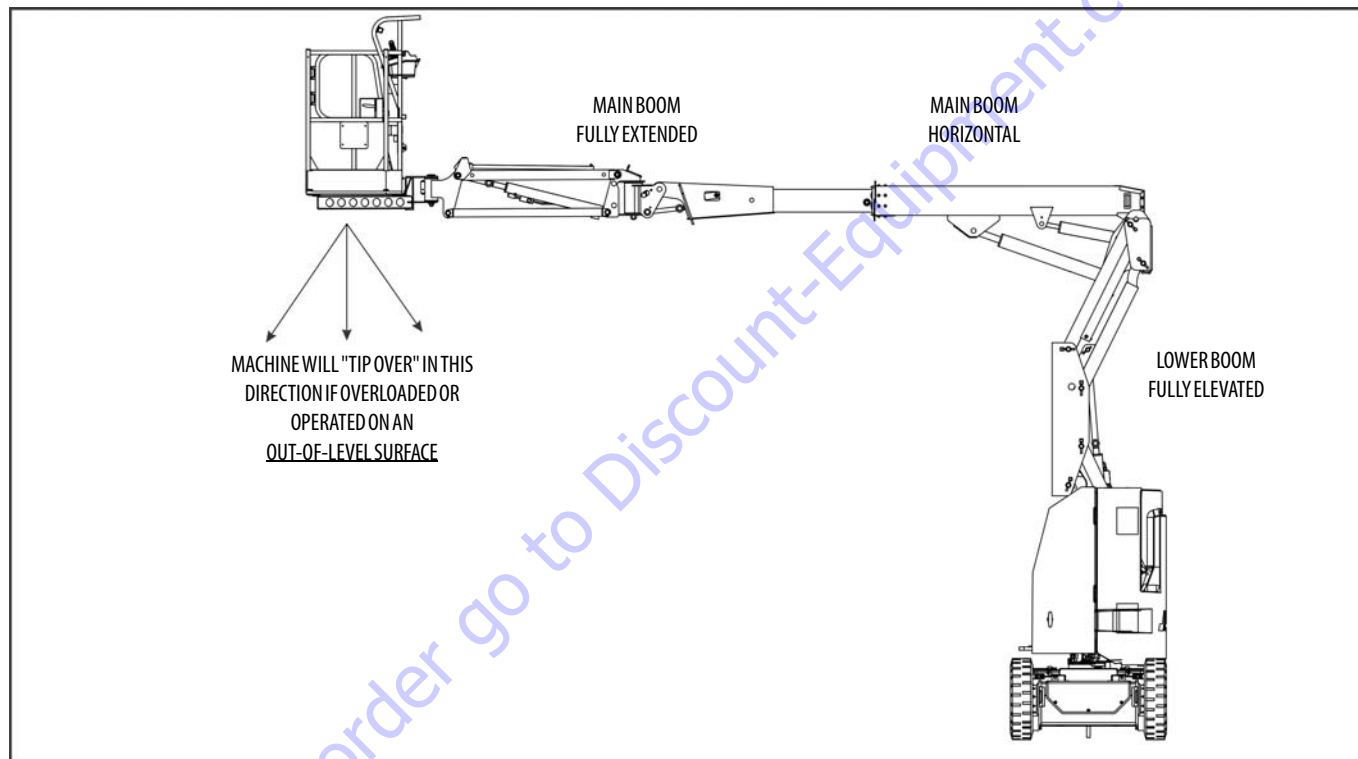
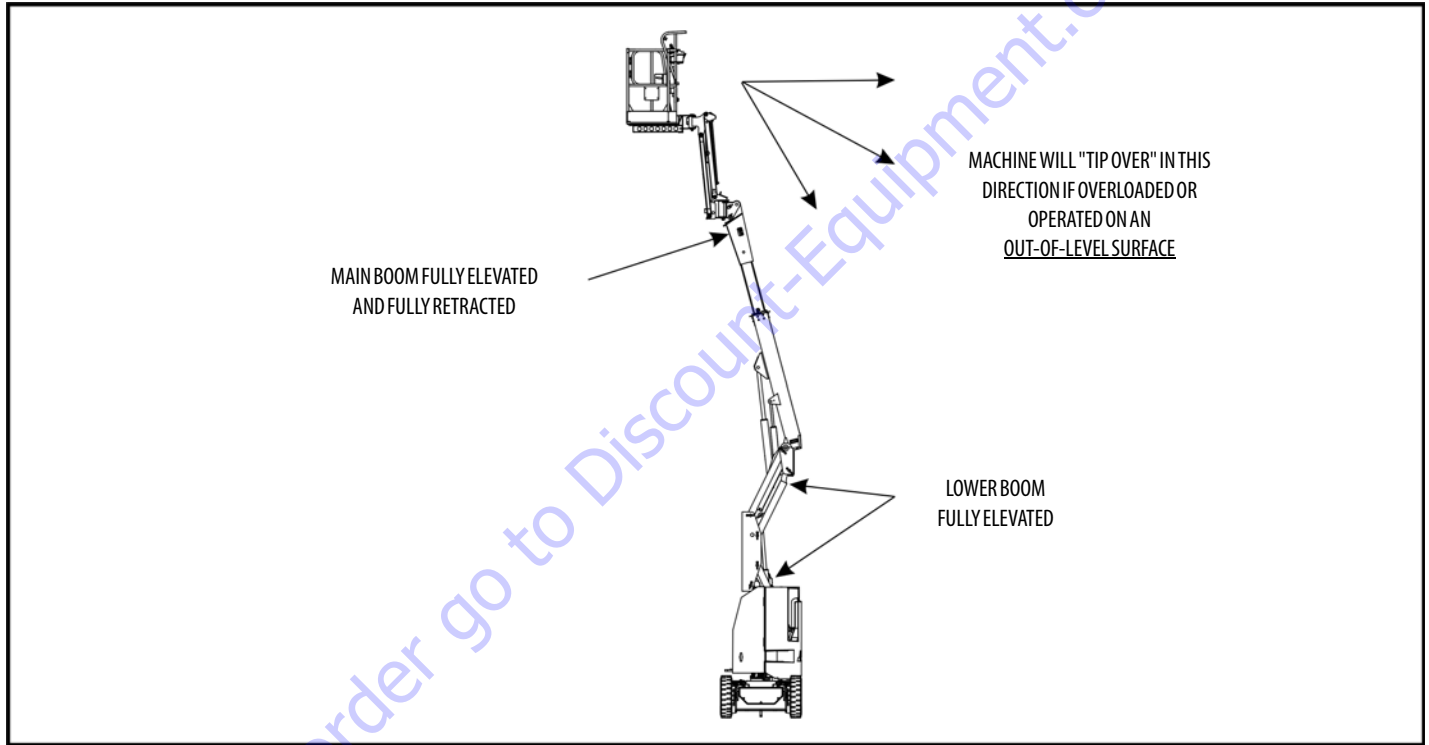

Figure 4-1. Position of Least Forward Stability
Figure 4-2. Position of Least Backward Stability - E300AJ
Machine stability is based on two (2) conditions which are called FORWARD and BACKWARD stability. The machine's position of least FORWARD stability is shown in Figure 4-1., and its position of least BACKWARD stability is shown in Figure 4-2. and Figure 4-3.